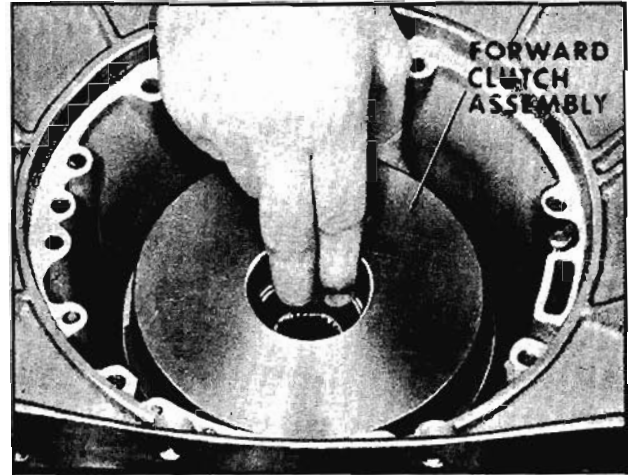

Fig. 6-275 Removing Forward Clutch
3. Remove forward clutch assembly by pulling straight out of case. Make certain low band has been released before attempting to remove forward clutch. (Fig. 6-275)